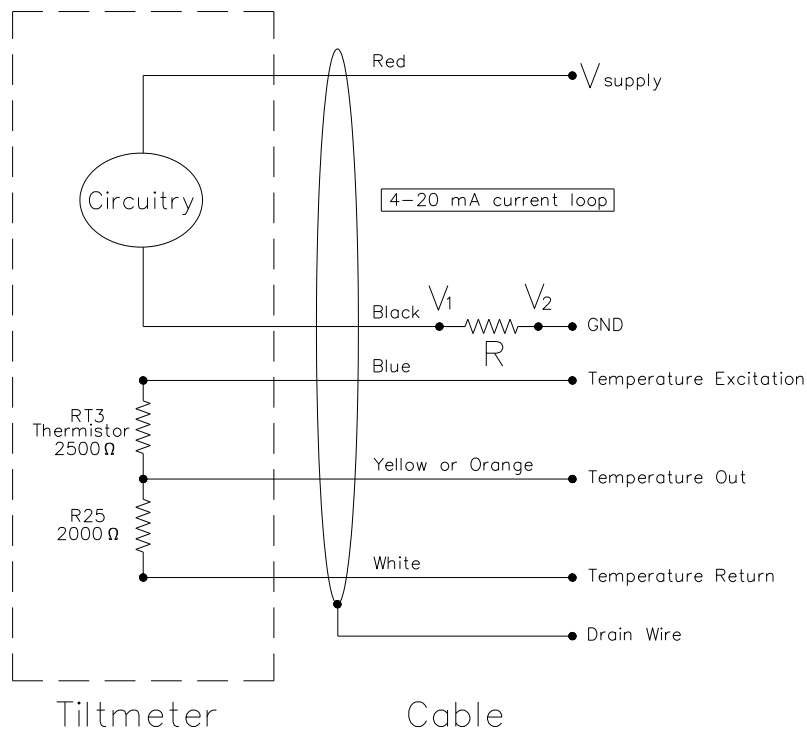
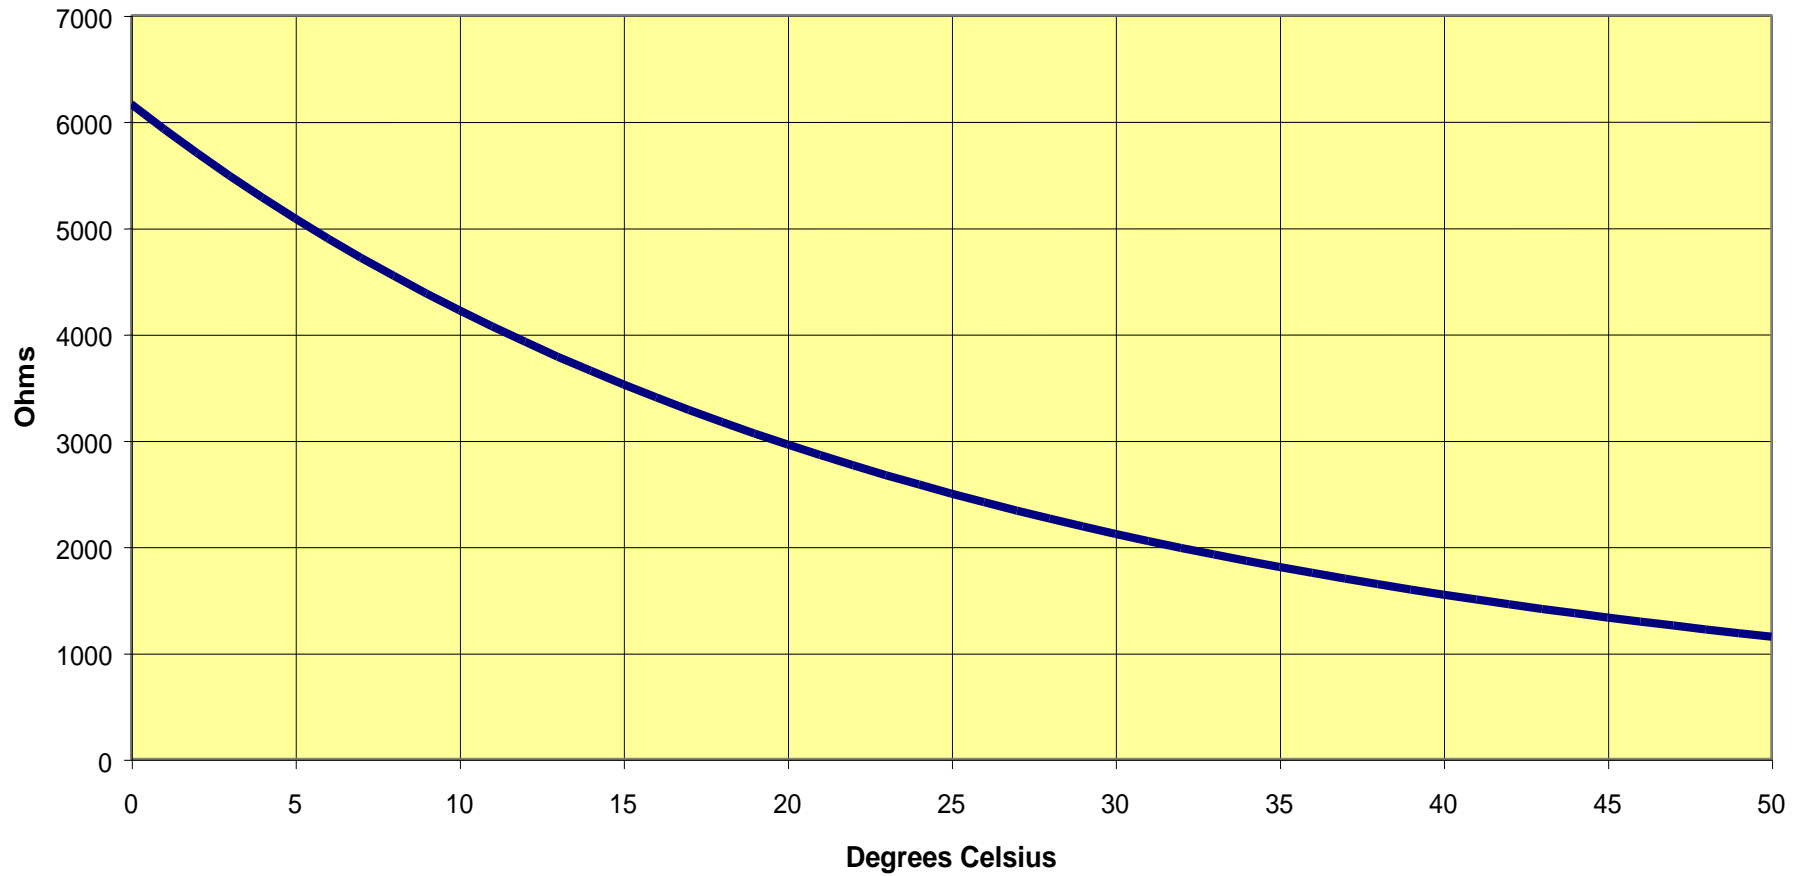

Figure 4. Wiring diagram for the Clinometer Pak 420 Uniaxial
Figure 11. Thermistor resistance vs. temperature, 0° to +50°C
Color coding of the wires in the Clinometer Pak 420 cable is shown in Table 1. J2 is the white connector on the printed circuit board inside the tiltmeter. Figure 4 shows the wiring diagram. The sense resistor, R in Figure 4, is usually not needed unless a data logger is used. The current can be measured directly using an ammeter between V_1 and V_2 of the current loop in Figure 4, with no sense resistor. The ammeter will be connected between the loop return (ground) wire of the cable and the power supply ground, located at the end of the cable farthest from the tiltmeter. When no sense resistor is present, only the cable resistance affects the minimum power supply voltage, as explained in Appendix A.
1. Connect the tiltmeter to a power supply. The power supply should be connected between V_{supply} and GND of the current loop in Figure 4.
2. Connect the tiltmeter to an ammeter. The ammeter should be connected between V_1 and V_2 of the current loop in Figure 4.
5. Verify that the temperature sensor output accurately approximates the temperature in your location. Connect an ohmmeter between Temperature Excitation and Temperature Out. (Figure 4 shows the wiring diagram.) For example, a temperature of 25°C (77°F) should give a current output of 2500 Ohms. See the graph in Figure 11 for the upper half of the temperature sensor scale. Section 7, Temperature Measurement, explains the process in detail.
Your tiltmeter contains an internal *thermistor* for measuring temperature. This thermistor has a negative temperature coefficient, which means that its resistance decreases as the temperature goes up. Its resistance at 25°C is approximately 2500 Ohms. The wiring diagram for the thermistor, RT3, is shown in Figure 4. When making a temperature measurement, the thermistor should be powered only briefly (<1 second is good) to avoid self-heating.
- 3) The second method of determining temperature is to use the thermistor RT3 and fixed resistor R25 as a voltage divider (see Figure 4). By applying a known voltage V_{in} at the end of the “Temperature Excitation” wire and measuring the voltage V_{out} on the “Temperature Out” wire, the thermistor resistance is obtained indirectly, as shown below. Both V_{in} and V_{out} are referenced to ground at the end of the “Temperature Return” wire.